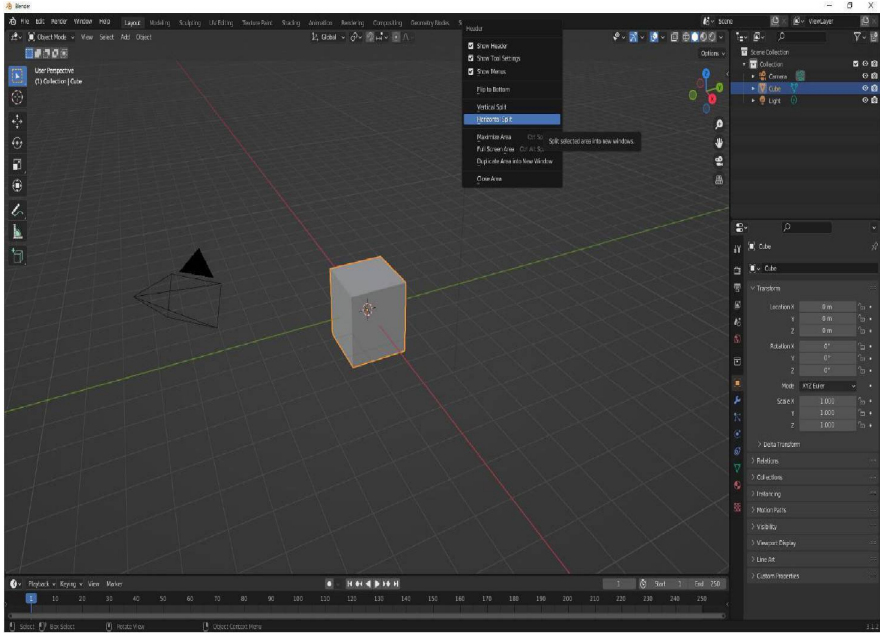

Figure 2.17: Selecting Horizontal Split from the 3D Viewport menu
1. From the default Layout view, right-click the top menu bar of the **3D Viewport** and select **Horizontal Split** as shown in *Figure 2.17*. A thin horizontal line will appear in the middle of the viewport, which you may move up and down freely until you click to confirm, but before clicking, press **Ctrl** or **Cmd** and notice how your mouse movements snap between one invisible increment and another.
Once again, it is helpful to note that we have not changed anything about our 3D objects or scene, we have only changed our view. Now that we know how to revert your changes, let's repeat the previous steps to split the panel horizontally again, as shown in *Figure 2.17*. Next, let's split the top and bottom **3D Viewports** vertically.